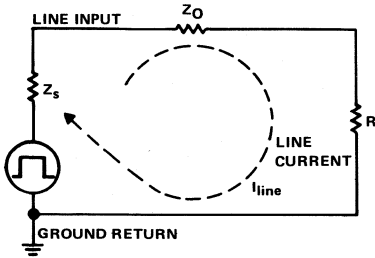

Figure 33. Diagram Representing a Gate Driving a Transmission Line
The total propagation delay is of secondary importance in generation of internal noise. The actual transition time determines the amplitude and frequency spectrum of the generated signal at the higher harmonics. Application of the Fourier integral to series 'ALS'/AS waveforms shows frequency components of significant amplitude that exceed 100 MHz. Because of the frequency spectrum generated when an 'ALS'/AS device switches, a system using these devices must consider problems caused by radio frequency (RF) even though the repetition rates may be only a few megahertz. The transient currents generated by charging capacitors, changes in the levels of dc, line driving, etc., must be considered. In Figure 33 for example, a gate driving a transmission line is represented by a voltage source E , having an output impedance Z_S connected to an impedance Z_0 , and loaded with a resistance R_L .